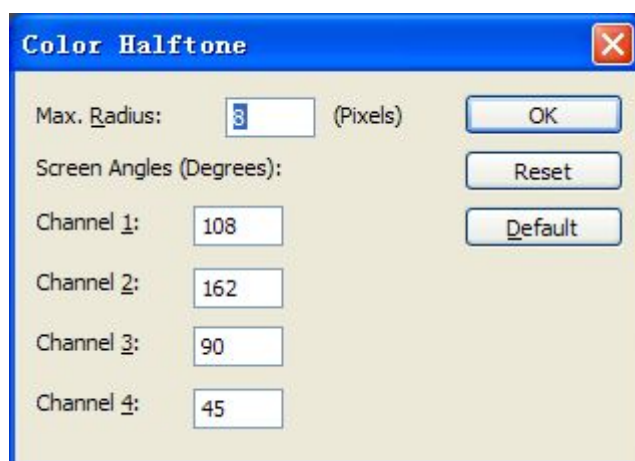

Figure 5-6
- 1、 Select Filter/ Pixelate / Color Halftone , a window will pop up, such as figure 5-6.